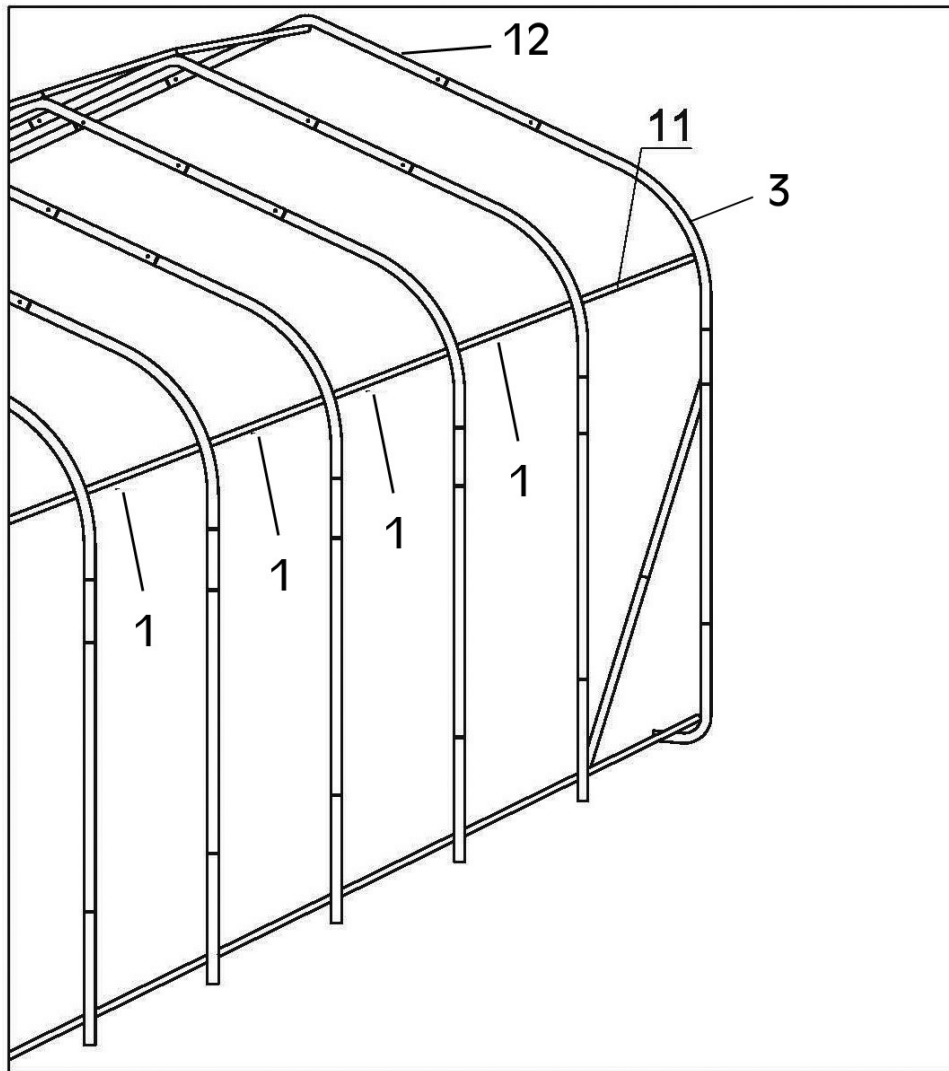

Figure 5
1. Start at one side of the rear End Bow along the curvature of the Roof Bend (3). The End Top Rail (11) attaches to Roof Bend (3) on the inside of this curve. Insert Top Rail (1) inside End Top Rail (11) and attach to the Middle Bow. Continue
attaching the Top Rails (1) to the Middle Bows and each other until you reach the end. Repeat these steps on the other side. Do not tighten bolts at this time. The bolts at the end will need to be removed when installing the cover fabric (door) and cover fabric (back). See Figure 5.